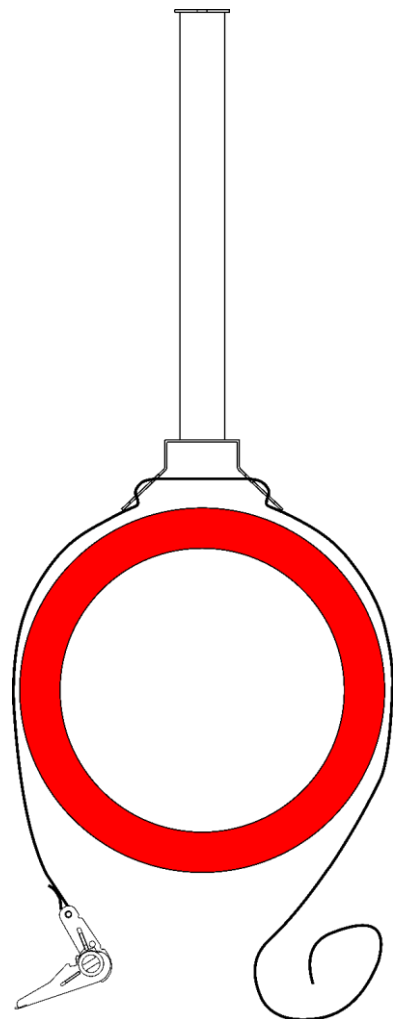

Fig. 06
- 02) Put the Tree & Pole Bracket against a tree or an upright structure (Fig. 06).